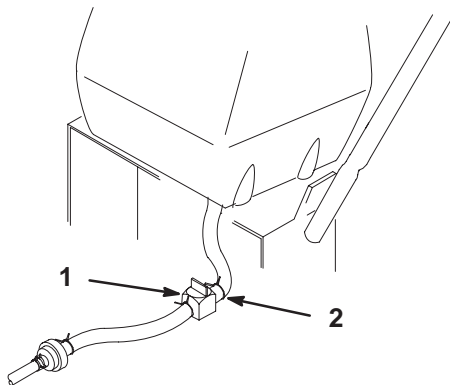

Figure 35
2. Close fuel shut-off valve at fuel tank (Fig. 35).
3. Squeeze the ends of the hose clamp together and slide it up the fuel line away from valve (Fig. 35).
4. Pull the fuel line off the valve (Fig. 35). Open fuel shut-off valve and allow gasoline to drain into a gas can or drain pan.
6. Open fuel shut-off valve at fuel tank (Fig. 35).
7. Check for fuel leaks and repair if needed (Fig. 35).